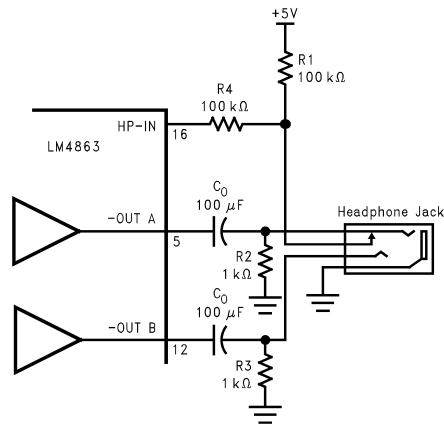

FIGURE 2. Headphone Circuit
*Figure 2* shows the implementation of the LM4863's headphone control function using a single-supply headphone amplifier. The voltage divider of R1 and R2 sets the voltage at the HP-IN pin (pin 16) to be approximately 50 mV when there are no headphones plugged into the system. This logic-low voltage at the HP-IN pin enables the LM4863 and places it in bridged mode operation. Resistor R4 limits the amount of current flowing out of the HP-IN pin when the voltage at that pin goes below ground resulting from the music coming from the headphone amplifier. The output coupling capacitors protect the headphones by blocking the amplifier's half supply DC voltage.
When a set of headphones are plugged into the system, the contact pin of the headphone jack is disconnected from the signal pin, interrupting the voltage divider set up by resistors R1 and R2. Resistor R1 then pulls up the HP-IN pin, enabling the headphone function. This disables the second side of the amplifier thus muting the bridged speakers. The amplifier then drives the headphones, whose impedance is in parallel with resistors R2 and R3. Resistors R2 and R3 have negligible effect on output drive capability since the typical impedance of headphones are 32Ω. Also shown in *Figure 2* are the electrical connections for the headphone jack and plug. A 3-wire plug consists of a Tip, Ring and Sleeve, where the Tip and Ring are signal carrying conductors and the Sleeve is the common ground return. One control pin contact for each headphone jack is sufficient to indicate to control inputs that the user has inserted a plug into a jack and that another mode of operation is desired.